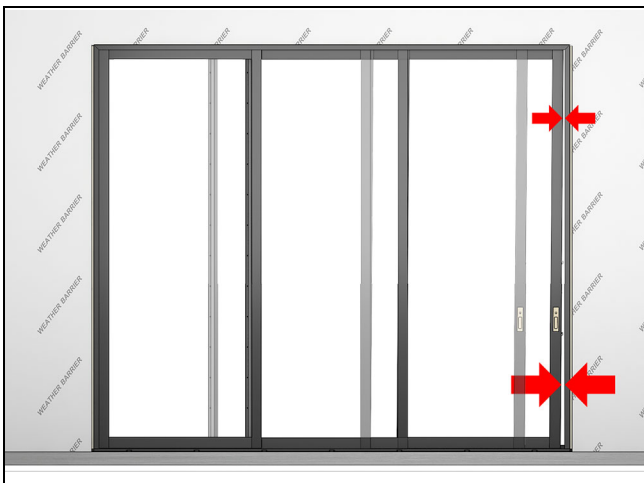

Figure 87
1. Move the operator panel toward the locking jamb until there is a slight gap. Check for an even reveal/gap between the panel and the jamb. See Figure 87.